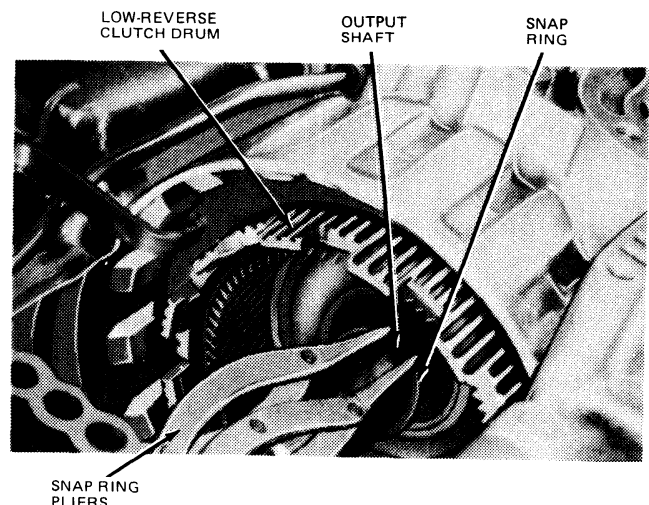

FIG. 17 Removing or Installing Reverse Ring, Gear Hub, Snap Ring
15. Remove the snap ring, (Fig. 17), that secures the reverse ring gear and hub on the output shaft. Slide the ring gear and hub off the shaft.